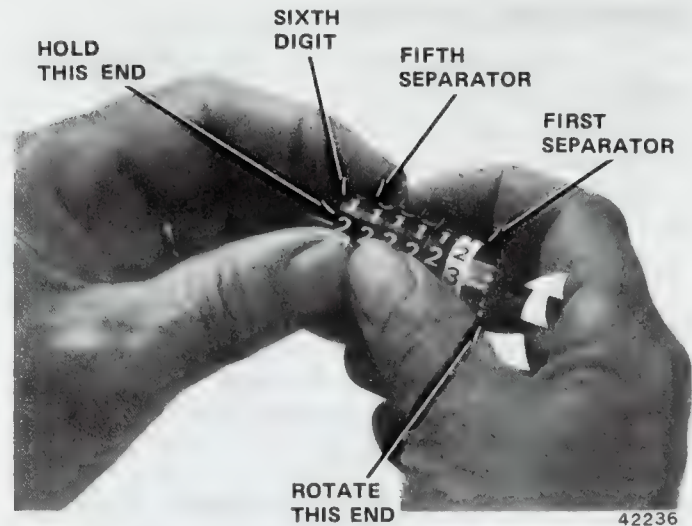

Fig. 3C-8 Advancing Odometer Reading (For Replacement Only)
Refer to figure 3C-8 for parts identification.
- (1) Hold fifth separator as shown in figure 3C-8.
- (2) Rotate first five numerals (five on right side) in their normal direction until the desired sixth digit is obtained.
- (3) When the desired sixth digit is obtained, align the fourth separator with the fifth separator.
- (4) Rotate the first four numerals (four on right side) until the desired fifth digit is obtained. Repeat process with remaining digits to indicate desired mileage.